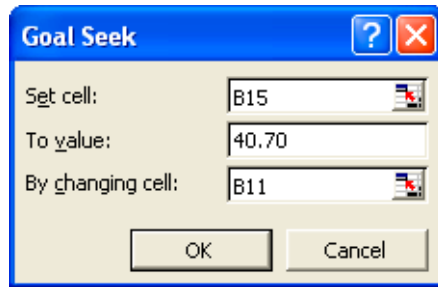

Figure 10 Goal Seek setup
- b Fill in **B15** (the **Column average linear velocity**) as the set cell, **40.7** as the value, and **B11** (**Inlet pressure**) as the cell to be changed (Figure 10).